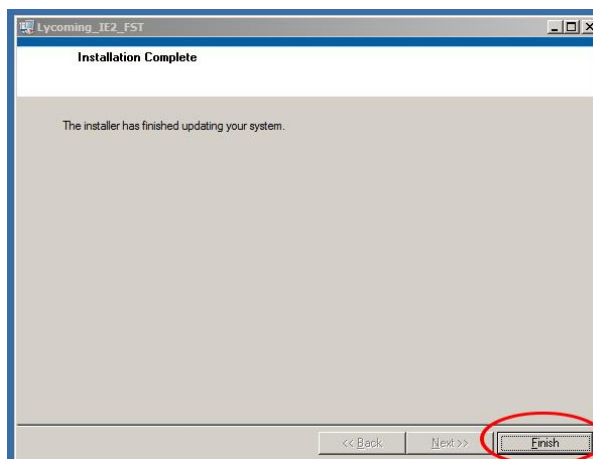

Figure 17
16. After the “Installation Complete” message is shown, click the **Finish** button (Figure 17).